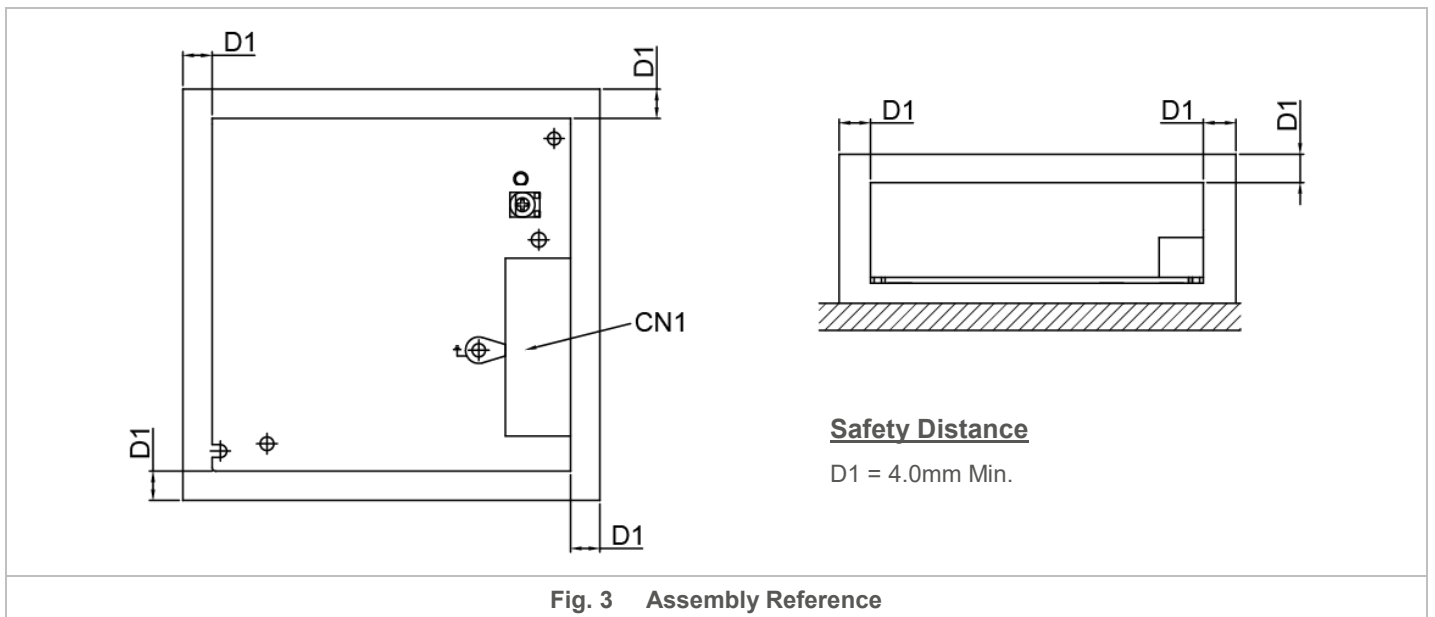

Fig. 3 Assembly Reference
- **PM□-15V50W1AA / PM□-15V50W1AG**: Use flexible cable (stranded or solid) of AWG No. 22-12. User should calculate and select the suitable wire specification (type/quantity/diameter) according to actual output current. The torque at the Connector shall not exceed 13 Kgf.cm. The insulation stripping length should not exceed 0.275" or 7 mm (Refer to Fig. 3).